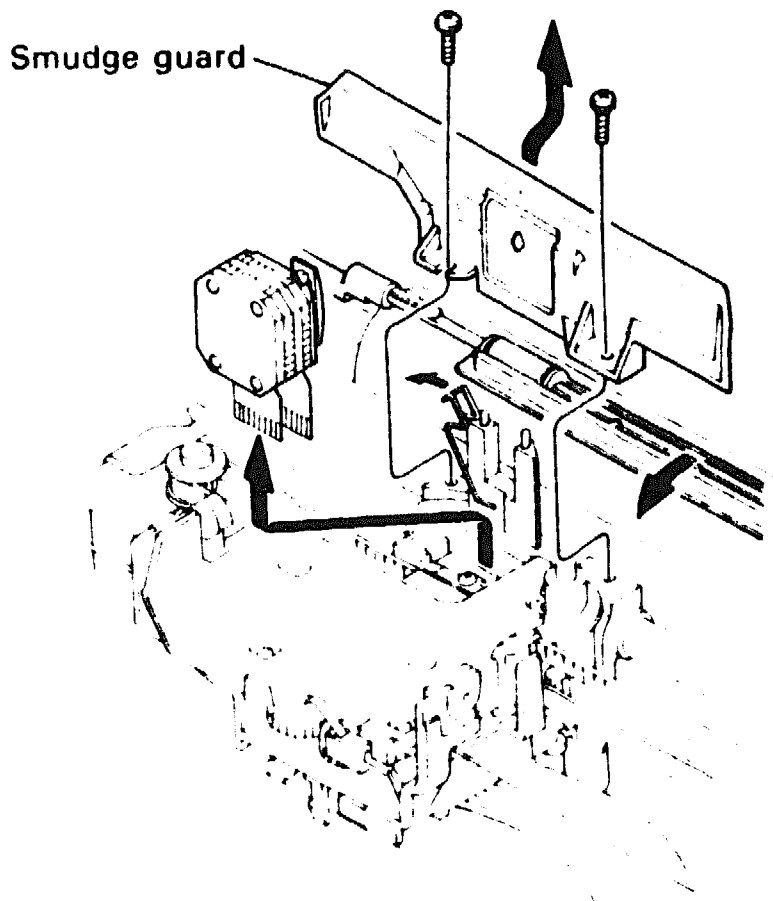

Figure 6-5 Removing the Smudge Guard
1. Remove the two screws holding the smudge guard and remove the smudge guard (Figure 6-5).